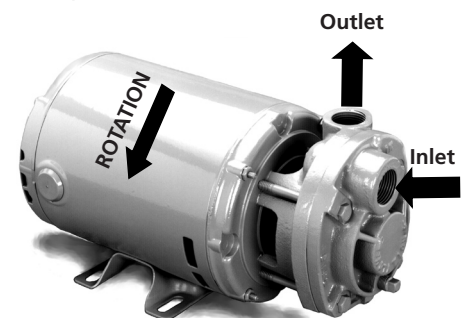

Figure 3
- Locate the pump close to and below the liquid level supply of fluid so that there will always be a positive supply of fluid at the inlet of the pump (See Figure 3). If the pump is located above the liquid level, a positive sealing foot valve or check valve must be installed at the end of the suction line or in the piping just before the pump. Suction lifts over 10 ft. are not
The standard direction of rotation for the pump is right handed, or clockwise, when looking at the motor end of the pump. A rotation arrow, refer to Figure 3, is located on the pump to indicate the correct direction of rotation.
The pump inlet is located on the end farthest from the motor, refer to Figure 3. The discharge or "outlet" can be on the top, side, or bottom depending on the model and construction of the pump. Normal discharge position is on top.